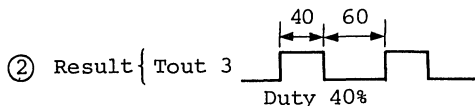

Figure 3-6. Example of DUOUT Execution
b. Example of DUOUT execution is shown in figure 3-6. If entry arguments are as shown in part ① of figure 3-6, duty rate 40% pulse is output as shown in part ② of figure 3-6.